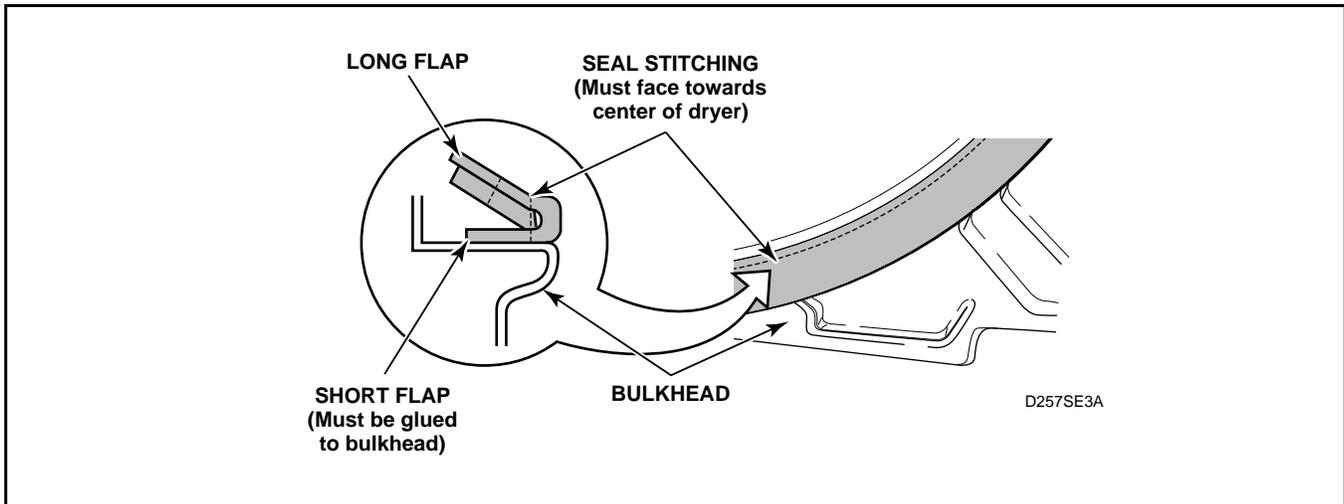

Figure 28
i. Front Cylinder Seal (Figure 28)